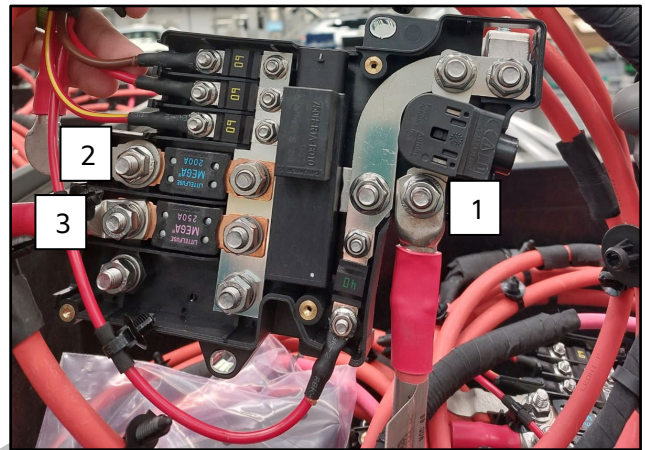

Figure 1
3. Remove the M8 fixings that follow (refer to Figure 1):